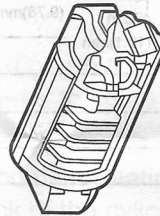

FIGURE 5
4. Insert actuator (G) into pocket located in the front of cylinder (D) (refer to figure 5)